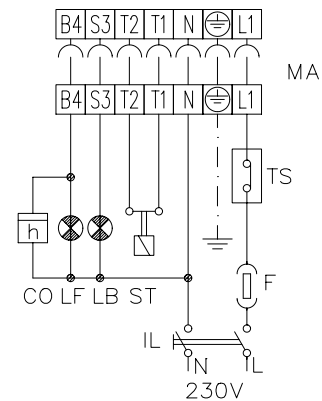

Fig. 16
- Carry out the electrical connections to the multiple connector as shown in Fig. 16.